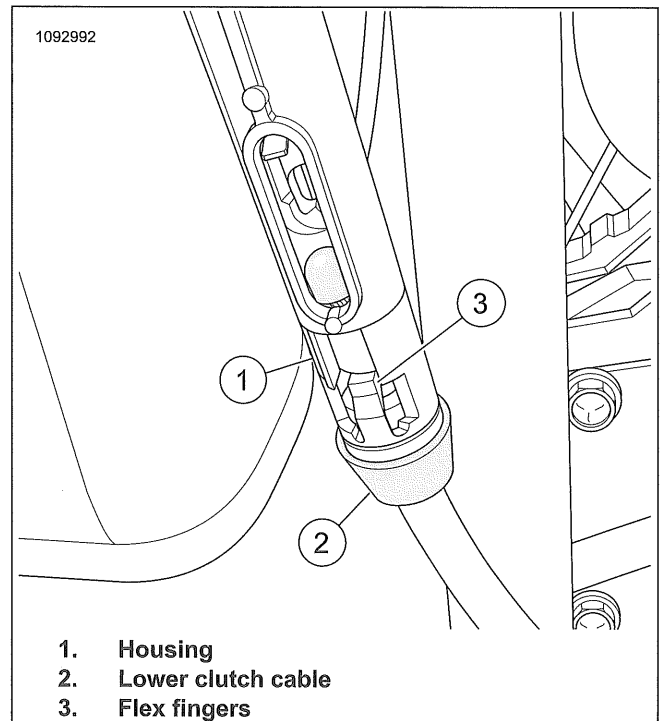

Figure 3-98. Lower Clutch Cable
7. See Figure 3-98. Pry flex fingers (3) open and slide lower clutch cable (2) from housing (1).
- 1. See Figure 3-98. Install lower clutch cable (2) into housing (1).